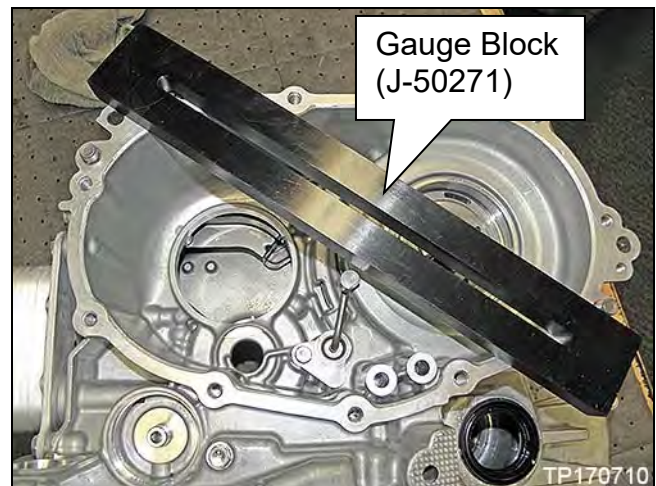

Figure 3M
7. Place Gauge Block (J-50271) across sub-assembly sealing surface as shown in Figure 3M.